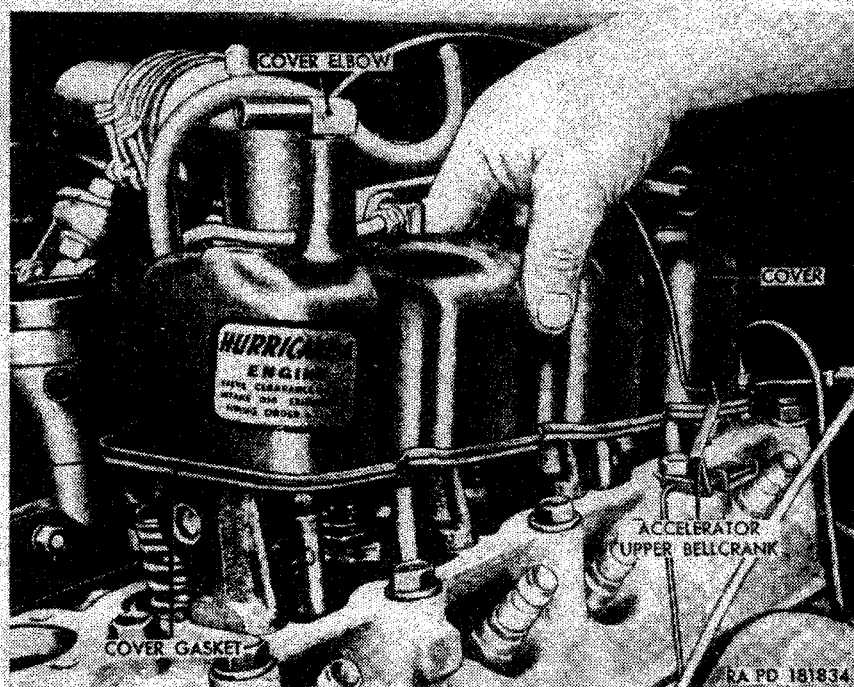

Figure 41. Removing rocker arm cover assembly.
- washer from each stud. Lift the rocker arm cover (fig. 41) off the cylinder head. Remove and discard the rocker arm cover gasket.
- (6) Unscrew the rocker arm cover elbow from the top of the cover.
- (3) Coat a new rocker arm cover gasket with plastic-type gasket cement and position the gasket in place on the bottom of the rocker arm cover (fig. 41).
- (5) Slip the free end of the oil filler tube-to-rocker arm cover hose over the end of the rocker arm cover elbow (fig. 41). Secure the hose to the elbow with the hose clamp.